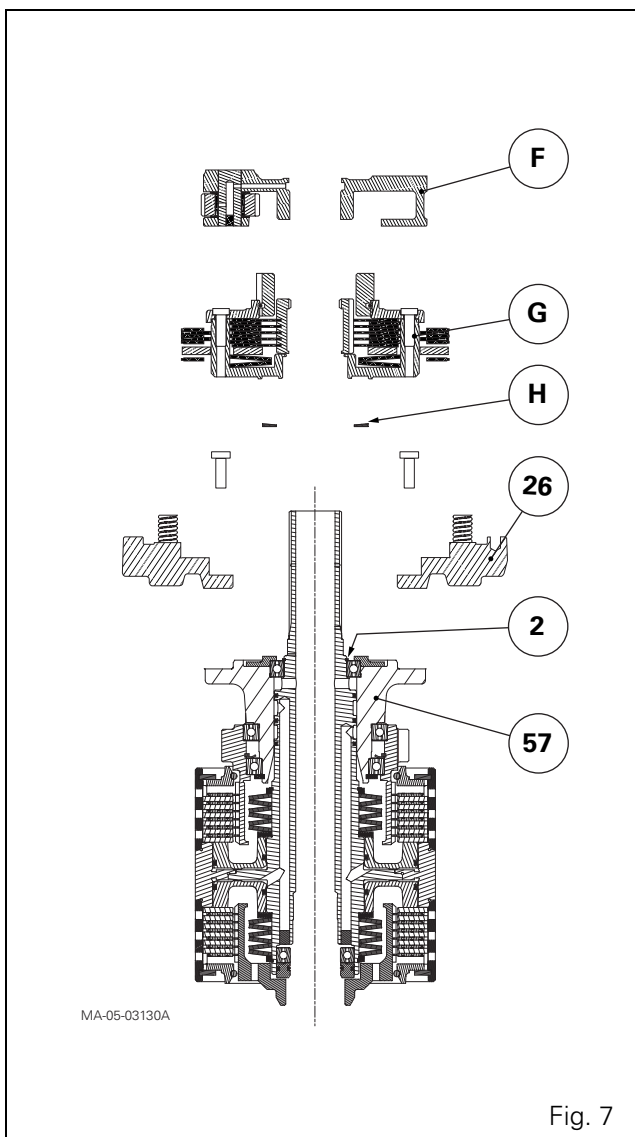

Fig. 7
14. Remove the planet-carrier (Fig. 7).
15. Take out the brake and clutch assembly (G) and the friction washer (H).
16. Remove the screws from the cover (26) on the bearing (57).
18. Fit the cover (26) on the bearing (57). Ensure there is a snap ring (2) on the shaft (1).
19. Fit the cover screws (26) smeared with Loctite 242 or equivalent. Tighten to a torque of 29–37 Nm.
20. Fit the friction washer (H) smeared with oil on the clutch unit (G).
21. Refit the brake and clutch assembly (G) on the cover (26 Fig. 7).
22. Refit the planet-carrier (F Fig. 7).
26. Carry out step 13 in reverse order, aligning the two parts using the mark (R Fig. 7).